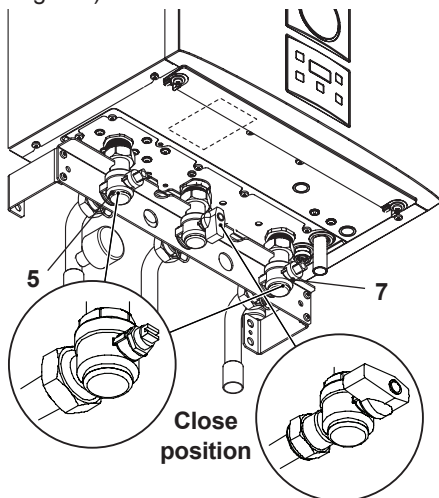

Fig. 9.5
- Close the c.h. isolating valves (5 and 7 in Fig. 9.5).